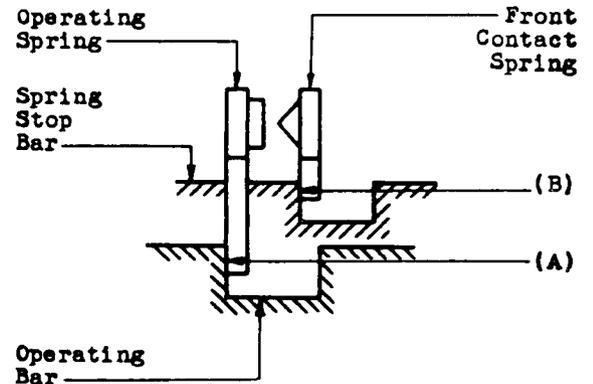

Fig. 12 - Tang Pressure - Make Spring Combination
(1) Operating Spring Tang - Fig. 12 (A):
(2) Front Contact Spring Tang: Fig. 12(B) - With the operating bar in the normal position, the pressure of the front contact spring tang against the